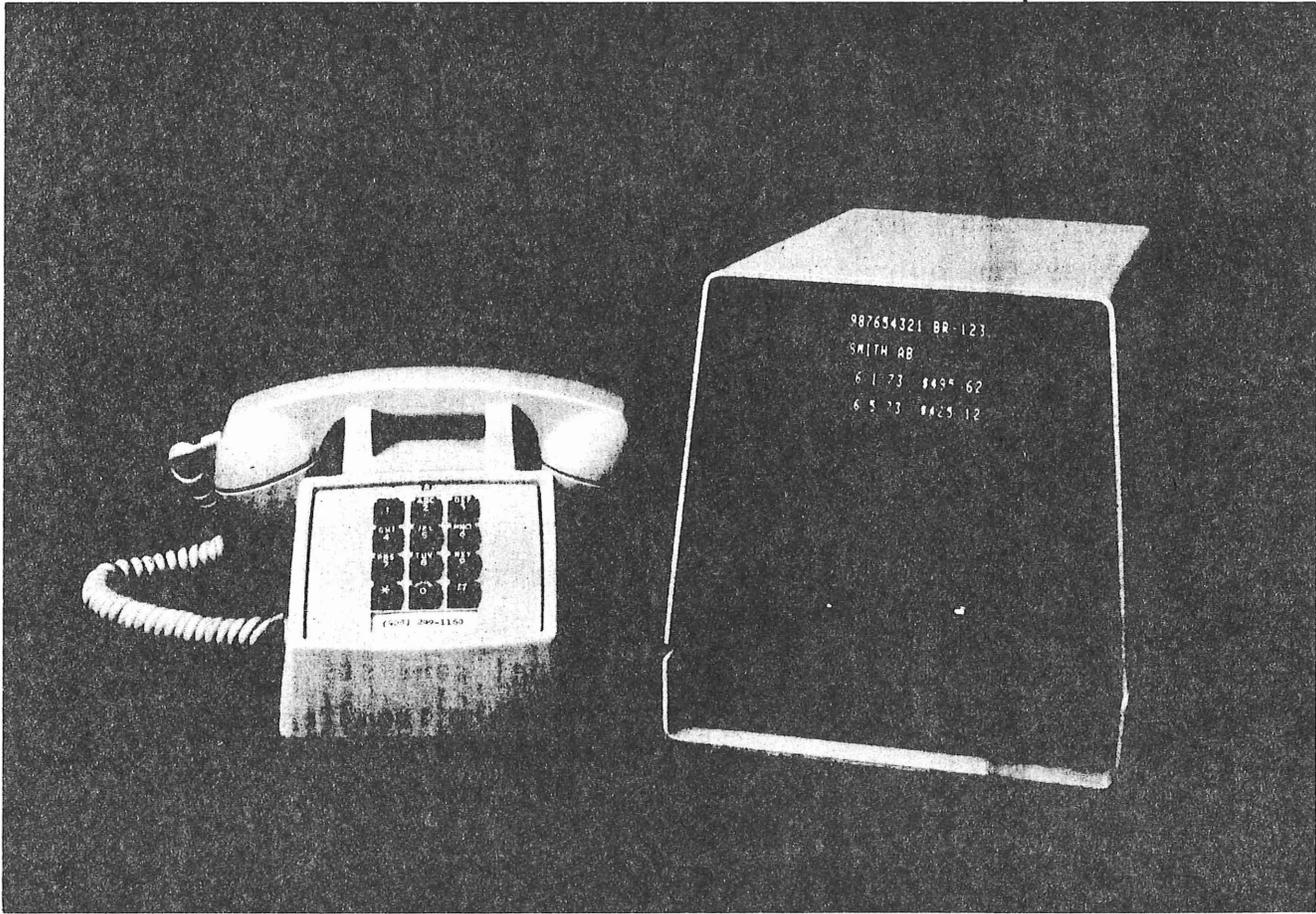

Figure 1-1. ComSet Terminal Installation
1.02 The ComSet terminal is primarily designed as the display vehicle for a data entry or inquiry/response data system using dial-up or private line networks. A typical installation (figure 1-1) consists of a standard pushbutton (DTMF) telephone and the ComSet terminal. The terminal consists of the ComSet display unit, the ComSet interface cable (mounted on the phone) and power cord.